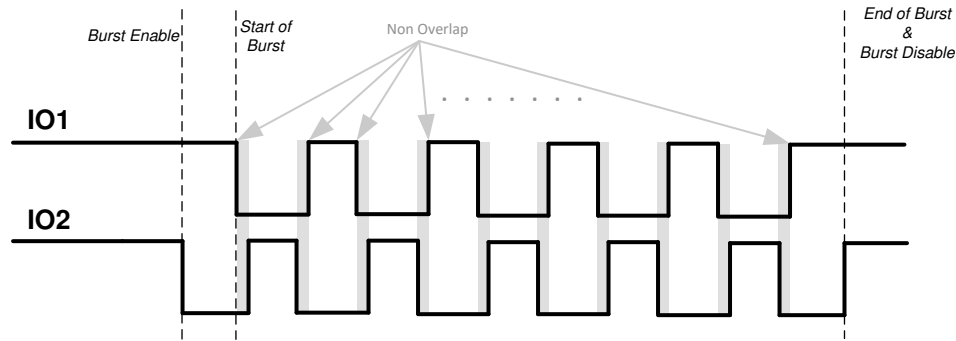

Figure 7-3. IO_MODE 2 Description
- IO_MODE = 2:** In this mode both IO1 and IO2 are used to control OUTA and OUTB. The burst enable is triggered when either IO1 or IO2 transitions from high to low. Start of burst (OUTA and OUTB changing state) happens only at the next falling edge of IO1. Figure 7-3 shows the case where a high-to-low transition on IO2 is used to enable the burst. A burst is emulated when IO1 and IO2 are toggled in a non-overlapping sequence. After the start of burst, the state of OUTA and OUTB pins are determined by IO1 and IO2 pins. During a burst, if there is a condition where both IO1 and IO2 are high for more than half period of the internal clock f_{INT_CLK} (caused by differential delays due to PCB parasitics or MCU code), an end of burst and burst mode disable will be triggered. Any falling edge just after this condition will be ignored to toggle OUTA and OUTB as it would be considered as a new burst enable signal. A systematic condition of overlap can cause a continuous end of burst trigger such that OUTA and OUTB do not toggle even though IO1 and IO2 are toggling. TI recommends no overlap or minimum non-overlap between the IO1 and IO2 signals when measured at the pins. BURST_PULSE has no effect in this mode.